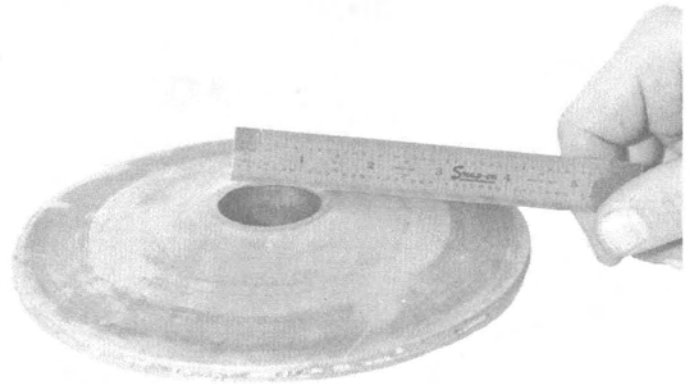

Figure 8. Checking Belt Faces with Straight Edge
3. Check belt surface of both faces with a straight edge (Figure 8) Replace if worn, grooved or pitted.